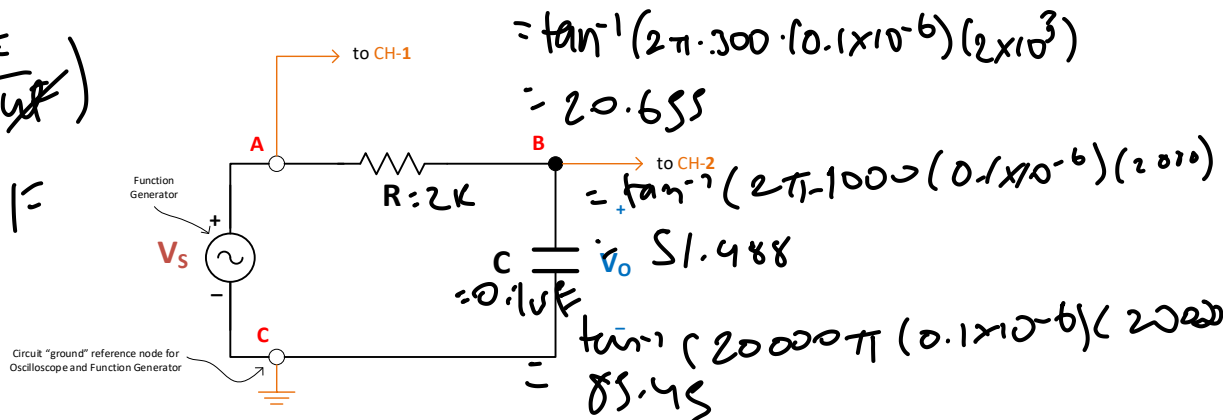

Figure 3.0: Resistance - Capacitance (R-C) Circuit
(c) The R-C circuit in **Figure 3.0** introduces a **phase-shift** (θ) between the output signal, **V_O** and the input signal source, **V_I**, the amount of phase-shift depends on the frequency, **f** of the input signal. This specific phase relationship can be expressed as: $\theta^\circ = \tan^{-1}(2\pi f \cdot C \cdot R)$
Table 2.1: Theoretical phase-shift values of Figure 3.0 circuit
- (f) Use **MultiSIM** to construct and simulate the circuit in **Figure 3.0**, with resistors $R = 2k\Omega$ and $C = 0.1\mu F$. Ensure that **node C** of the circuit is used as the *common ground* for all equipment.
Table 3.2: MultiSIM measured phase-shift values of Figure 3.0 circuit